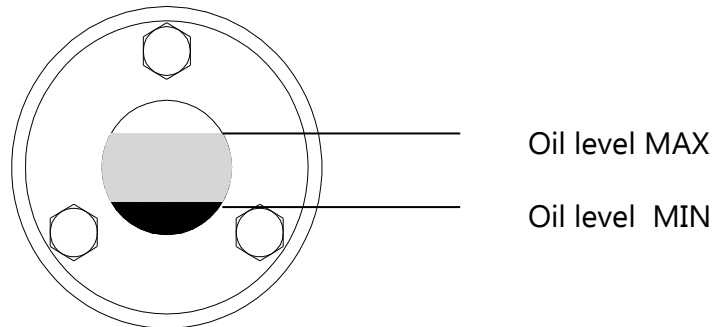

Fig. 88 Oil level range
- d) Introducing a quantity of oil to bring the level within the range shown in Fig. 88.